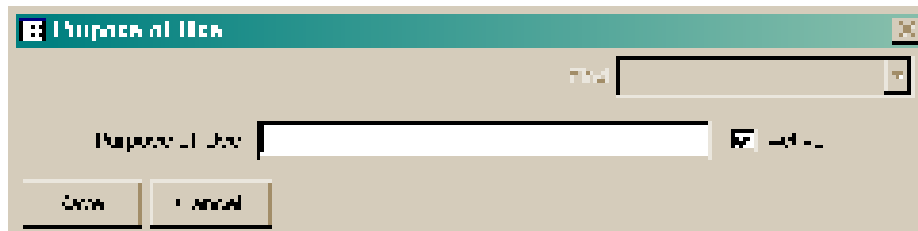

Figure 5.28 Blank Purpose of Use form.
1. Click Add. A blank Purpose of Use form (Figure 5.28) is displayed.